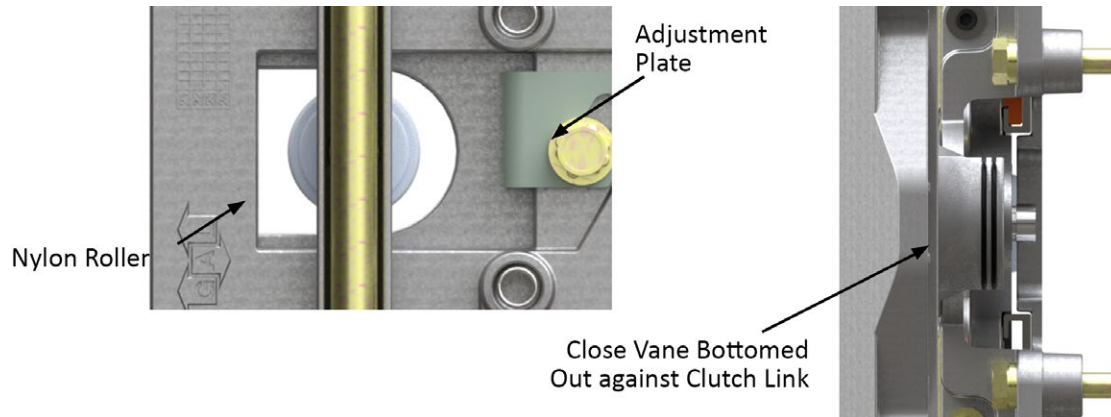

Figure 12: Retracting Vane Adjustment
- iii. Let go of the Close Vane. The vane should remain in the retracted position, held in place by the Adjustment Plate as it contacts the Nylon Roller. Depicted in **Figure 12**.